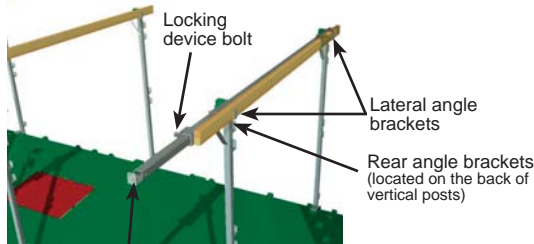

Fig. 7.48
- 10- Replace the locking device on the sliding tube, making sure the bolt is horizontal, aligned with the roof support tube and on the side opposite to the angle bracket located on the vertical post (fig. 7.48). Adjust the sliding tube to bridge the distance to the face of the work and tighten the bolt to hold the sliding tube in place.